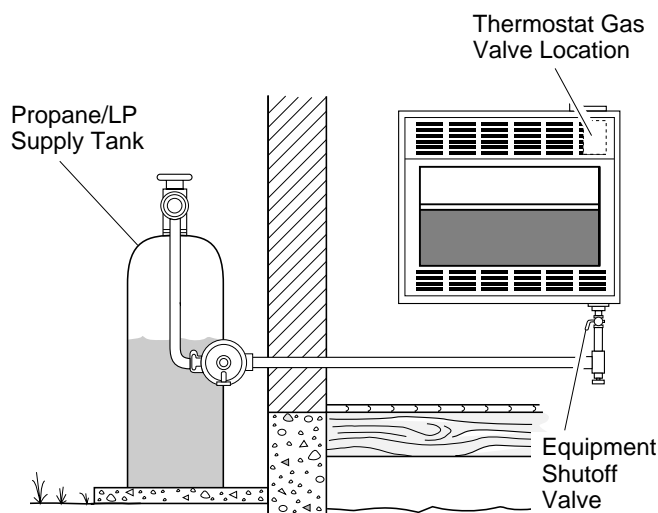

Figure 23 - Checking Gas Joints
3. Check all joints from propane/LP supply tank to equipment shutoff valve (see Figure 23). Apply mixture of liquid soap and water to gas joints. Bubbles forming show a leak.
4. Check all joints from equipment shutoff valve to thermostat gas valve (see Figure 23). Apply mixture of liquid soap and water to gas joints. Bubbles forming show a leak.